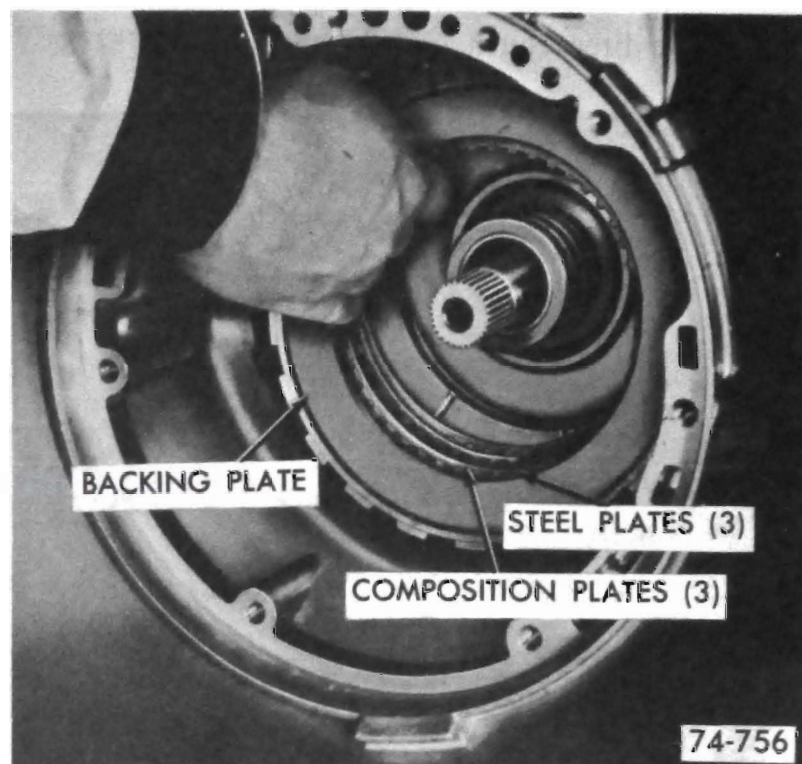

Figure 76-93
13. Remove intermediate clutch backing plate, 3 composition and 3 steel clutch plates. See Figure 76-93.